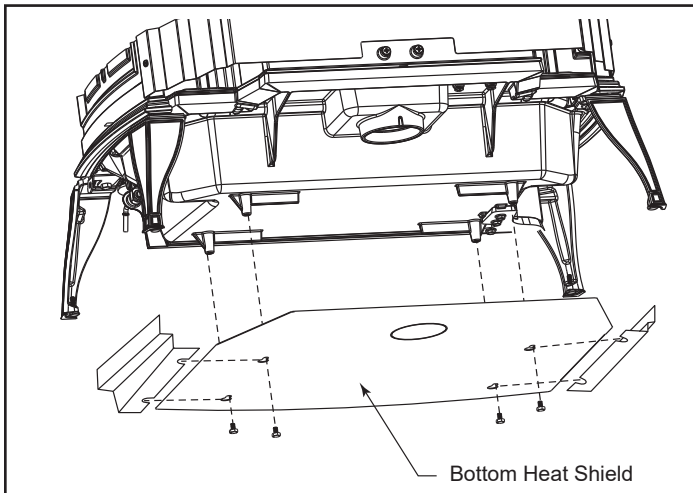

Figure 3.5 - Attach the bottom heat shield.
1. Install (4) 1/4-20 x 3/8" hex bolts that were previously removed from the shipping brackets and install into the four holes located under the stove, Figure 3.5.
2. Align the bottom heat shield key holes to the four hex bolts previously installed into base, Figure 3.5. The outside air cutout hole should be toward the rear of the stove.
3. Attach the heat shield sides by passing the slots over the bolt heads. Tighten the hex head bolts, Figure 3.5.